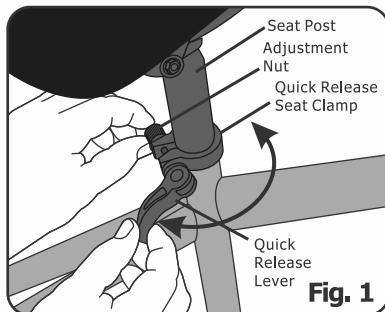

Fig. 1
1. When Quick Release is in the open position, see (Fig. 1) insert the seat post between the Maximum and Minimum Seat Post Marks.